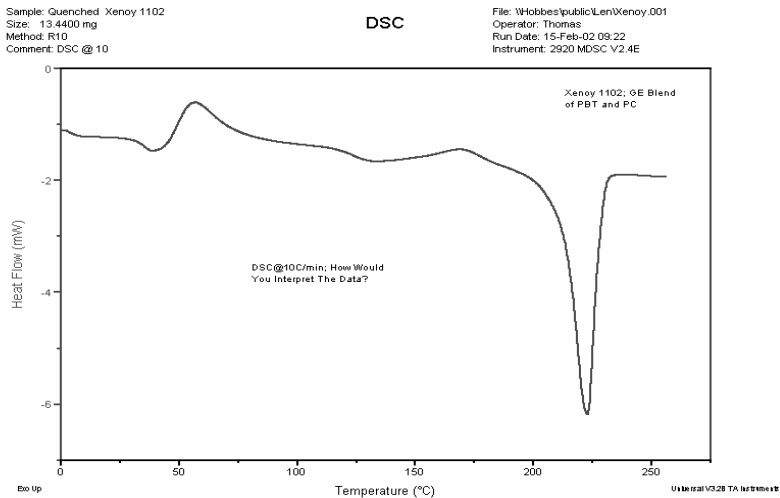

Figure 13. DSC of complex polymer blend
There is little doubt that blends of semi-crystalline and amorphous polymers are very difficult to characterize by traditional DSC. The reason is due to multiple glass transitions and often several crystallization peaks that occur while heating the sample in the DSC. Figure 13 shows DSC data on a common engineering plastic, Xenoy®, a product of the General Electric company. Xenoy® is a blend of Polybutylene Terephthalate (PBT) and Polycarbonate (PC). Except for the melting peak near 225°C, the results are very difficult to interpret.